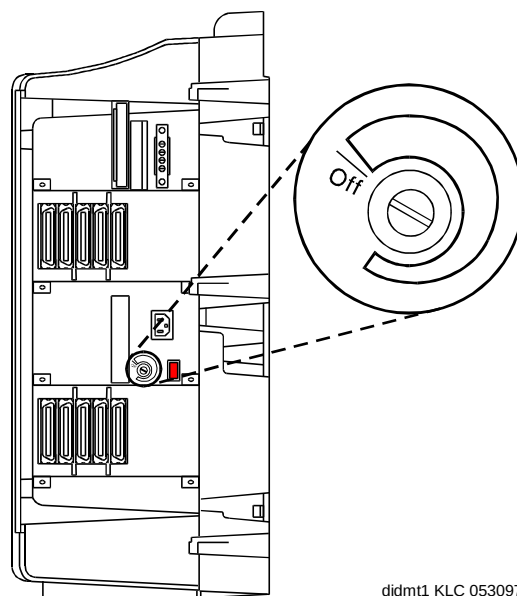

Figure 2-2. Setting the neon voltage
1. Turn the neon voltage control to OFF (see Figure 2-2.)
3. Adjust the neon voltage control clockwise in small increments until the ring ping stops. See Figure 2-2 on page 2-14.